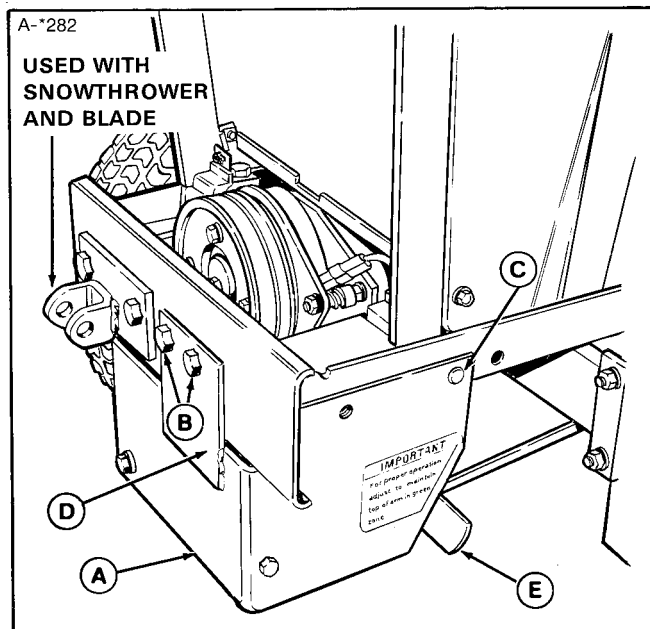
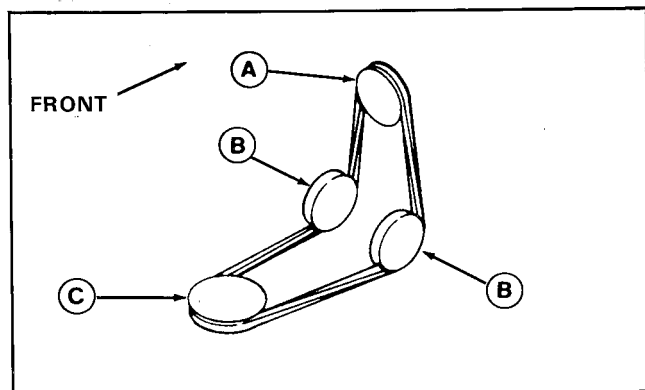

Figure 10. Idler Pulley Bracket
Figure 11. Belt Pattern
7. Install idler pulley bracket (A, figure 10) as follows. Attach front plate (D) with two 7/16 x 1 capscrews, 7/16 lockwashers and 7/16 nuts. Be sure lock-
8. Pull V-belt up from idler pulley support bracket to front clutch (figure 10). Install the belt in the INNER GROOVE (closest to engine) of the front clutch. See figure 11.
Check to be sure belt is not twisted and is fully in all pulley grooves (figure 11).
2. Lift the belt tension lever (E, figure 10) for slack and remove the V-belt from the mower drive pulley.
3. Remove the idler pulley support bracket (A, figure 10) from the tractor. Remove clutch cover to remove V-belt from front clutch.